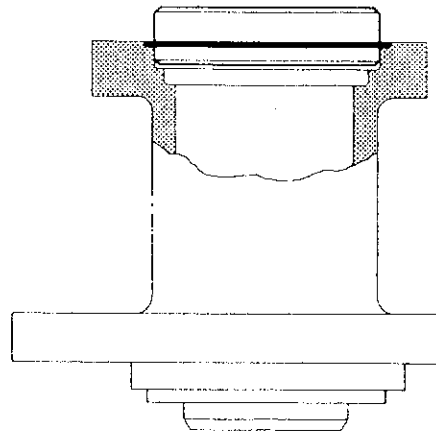

Figure 4.26
22. Install the bearing cover (42). Apply Loctite screw lock No. 242 to the six bearing cover screws (43) and torque to 59 - 73 in. lbs. (6.7 to 8.2 N·m).
23. Install retaining ring (34) in groove in drive housing bushing (33).
24. Install the drive housing bushing in the drive housing adapter. Be sure the retaining ring seats firmly against the adapter. See Figure 4.26.